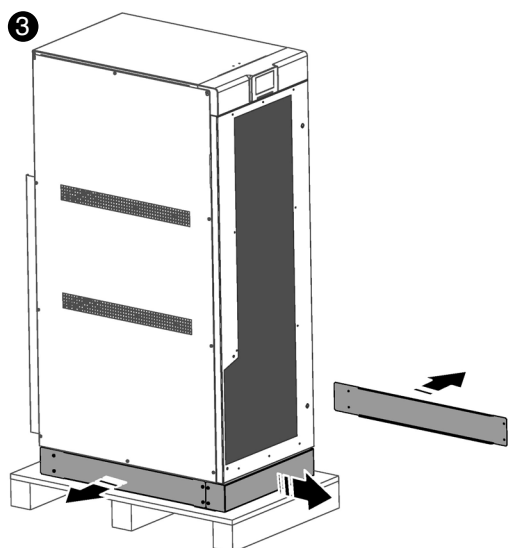

Fig. 30. Removing the base sockets.
- ❸ Remove the base sockets to expose the 4 legs in order to release the equipment from the pallet (Fig. 30).